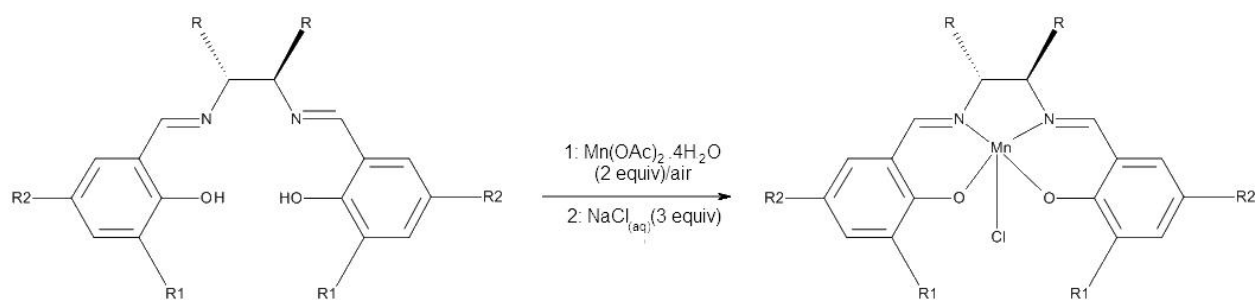

Figure 2: Step 2 - Synthesis of a manganese salen catalyst³
- Preparation of manganese salen catalyst (see Figure 2)